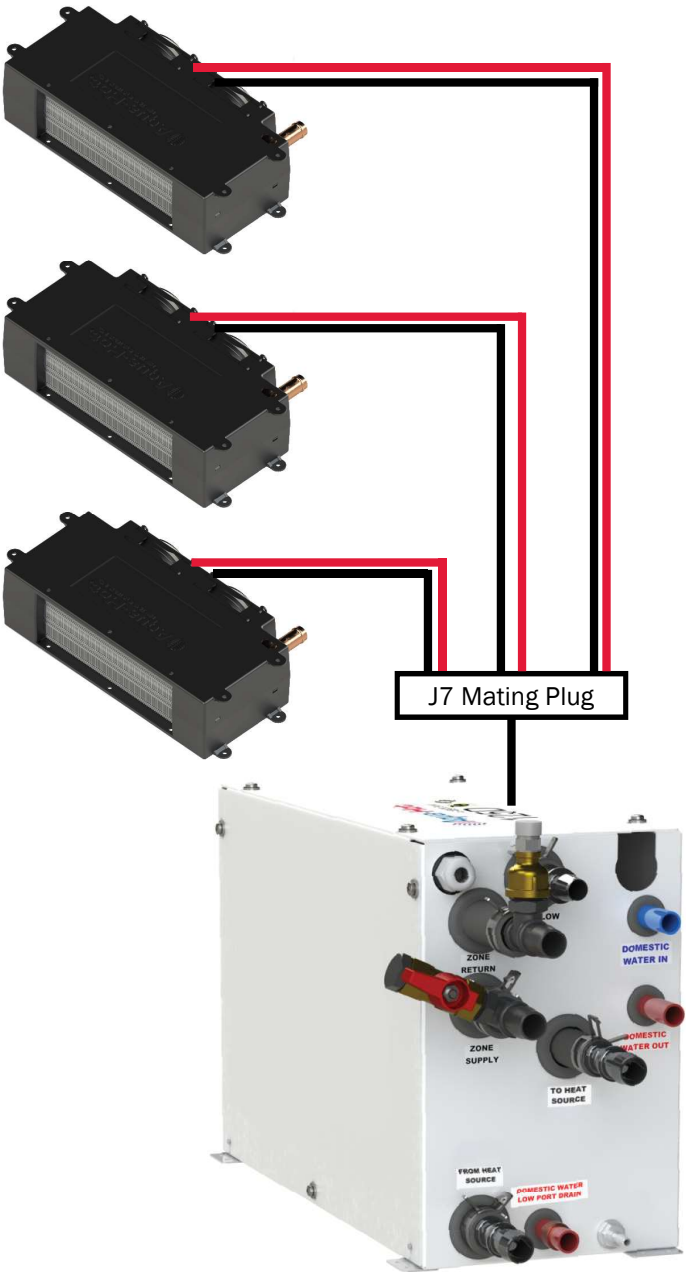

Figure 74
- 1. Wire each heat exchanger (in a thermostatic zone) in parallel to one another as shown in Figure 74.